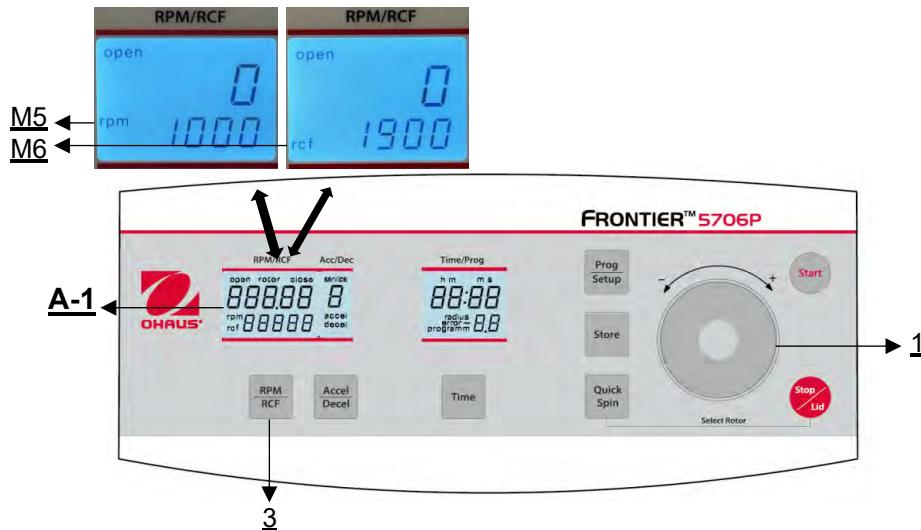

Figure 17
The pre-selection is activated through the key "**RPM | RCF**" (3) (refer to **Figure 17**). By pressing the key once the word "**rpm**" (M5) flashes. By pressing the key twice, the pre-selection of the centrifugal forces can be selected. Then the flashing word "**rcf**" (M6) appears. You can set the desired values with the touch wheel (1). In the display (A-1) the regulated value is shown permanently, before, during and after the run.